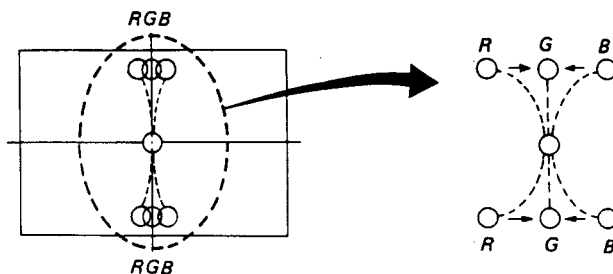

Fig. 1-27
- Adjust RV61 (Y. BOW) on the DB board to coincide with the R, G and B dots as shown in Fig. 1-27.